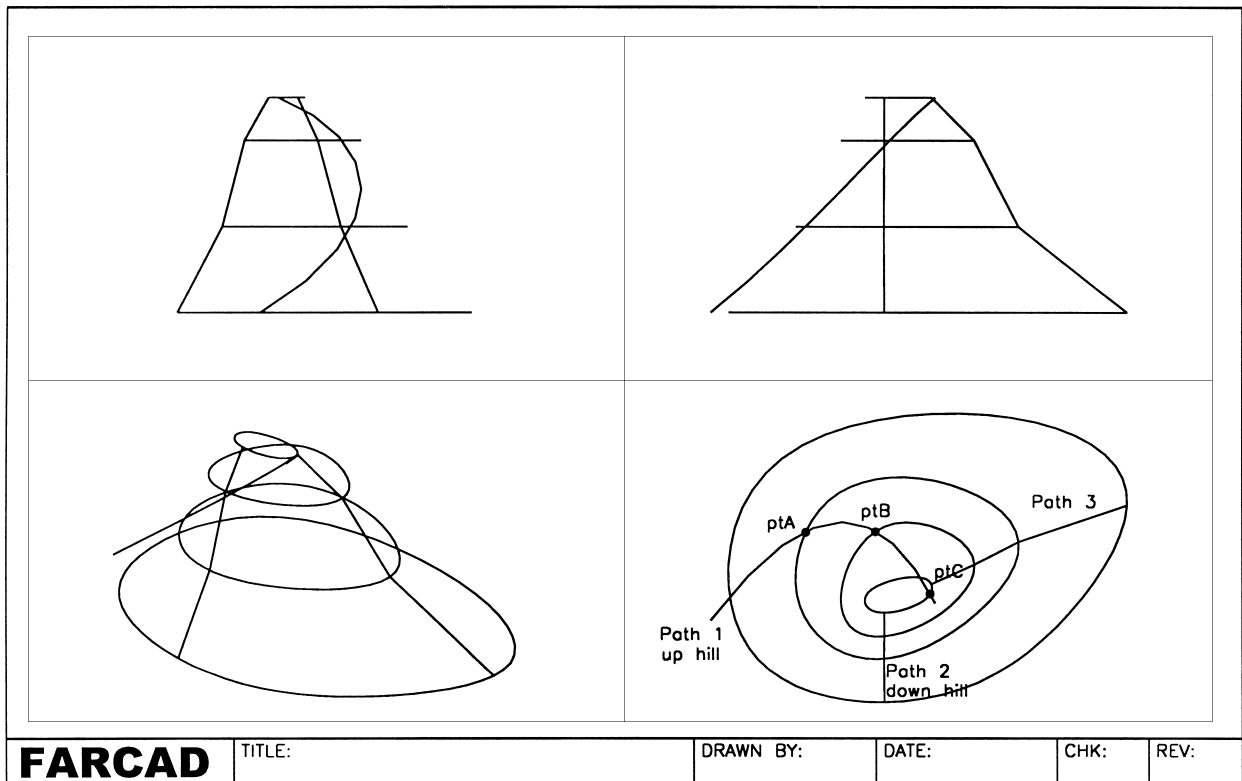

Figure 20.1 3D polyline example.
- 2 Refer to Fig. 20.1 and make the following new layers: